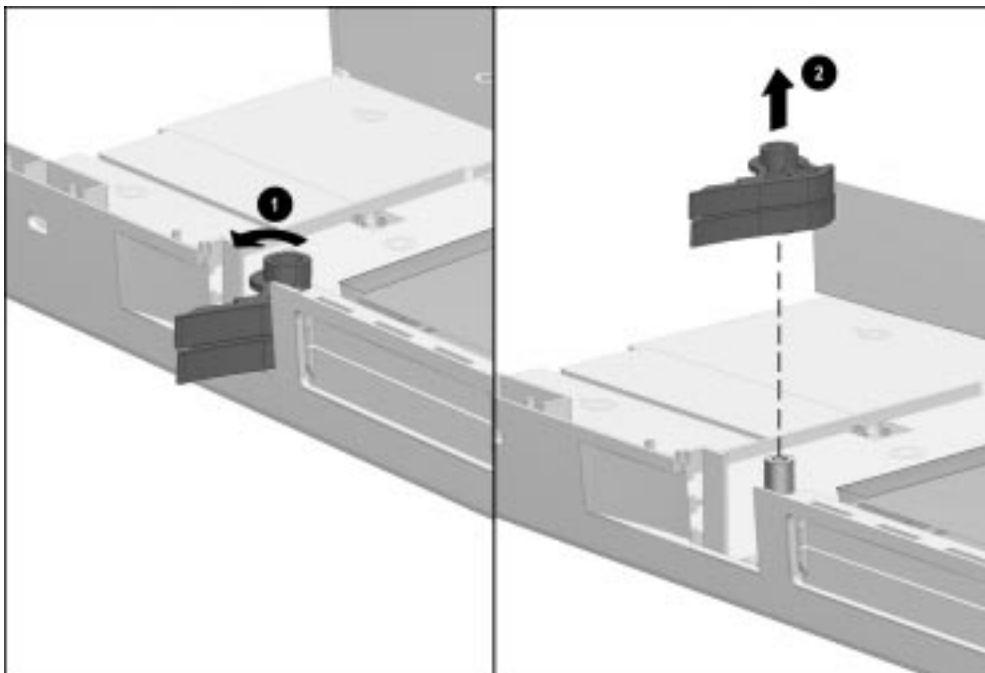

Figure 5-73. Removing the PC Card Eject Levers
7. Pull out both PC Card eject levers ❶ (Figure 5-73).
8. Lift the PC Card eject levers off their mounting post ❷.